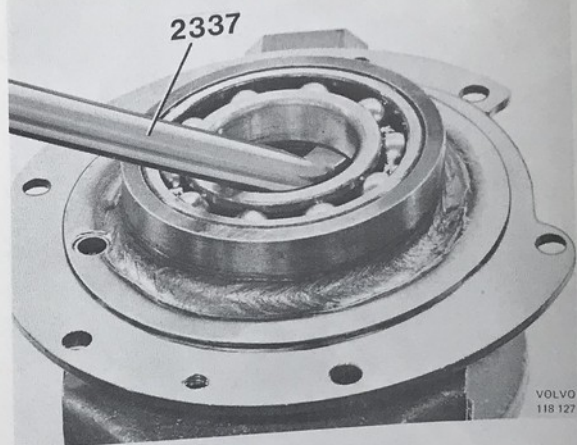

Fig. 92-63. Levering out the seal
26. Lever the seal out of the cover for the cable drum with 2337, see Fig. 92-63.